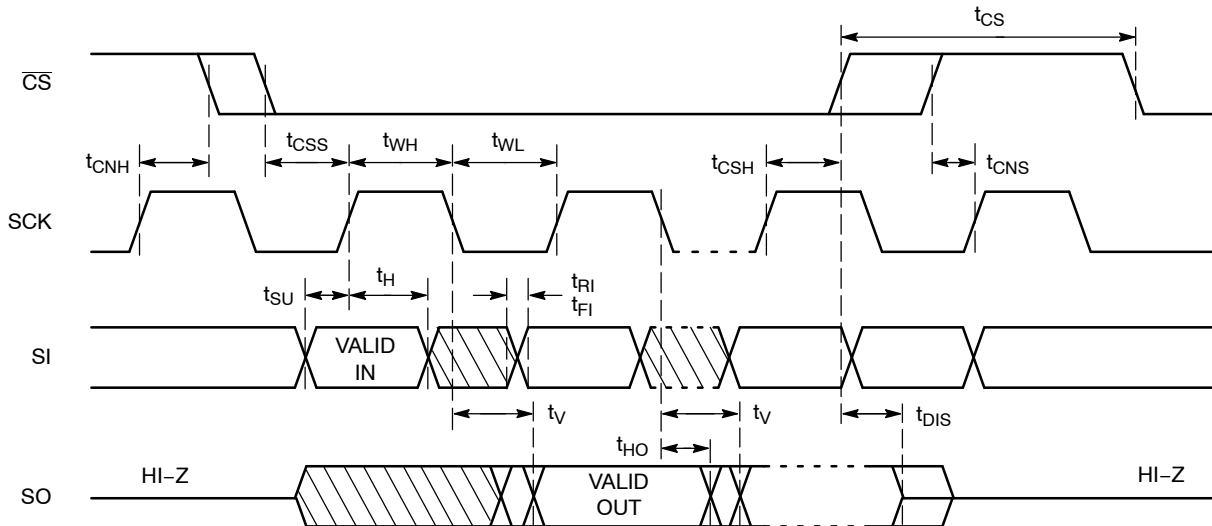

Figure 2. Synchronous Data Timing
8. **All Chip Select (CS) timing parameters are defined relative to the positive clock edge (Figure 2). t_{CSH} timing specification is valid for die revision E and higher. The die revision E is identified by letter “E” or a dedicated marking code on top of the package. For previous product revision (Rev. D) the t_{CSH} is defined relative to the negative clock edge.**
After a high to low transition on the $\overline{\text{CS}}$ input pin, the CAT25640 will accept any one of the six instruction op-codes listed in Table 9 and will ignore all other possible 8-bit combinations. The communication protocol follows the timing from Figure 2.